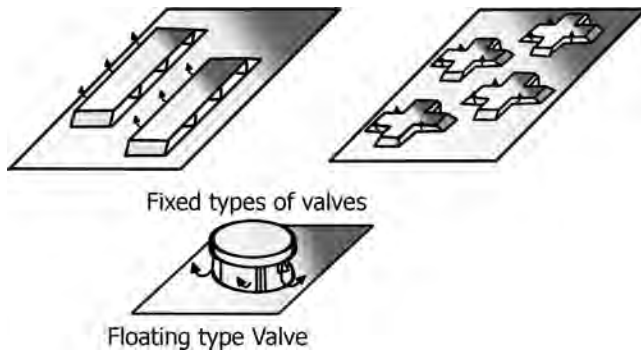

FIGURE 16.4 Types of valves used on valve trays.
- Valve trays can be fixed or floating types (Figure 16.4).